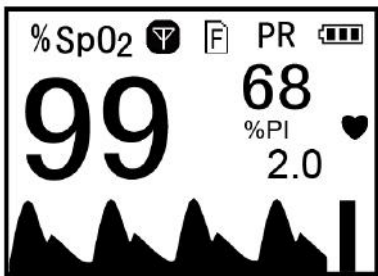

Figure 3.4 SpO₂ measuring screen display
5. The Oximeter will automatically start measurement in 2 seconds, and then recording the measured data automatically. The display screen is as shown in figure 3.4. User can read the values and view the waveform form the display screen.